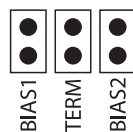

Figure 5 - INT and NET jumpers
- **INT:** These are the jumpers for the bias and terminating resistors used for the interface communication bus. See the Pron network guide for information about bias and terminating resistors. (See Figure 5)
- **NET:** These are the jumpers for the bias and terminating resistors used for the network communication bus. See the Pron network guide for information about bias and terminating resistors. (See Figure 5)